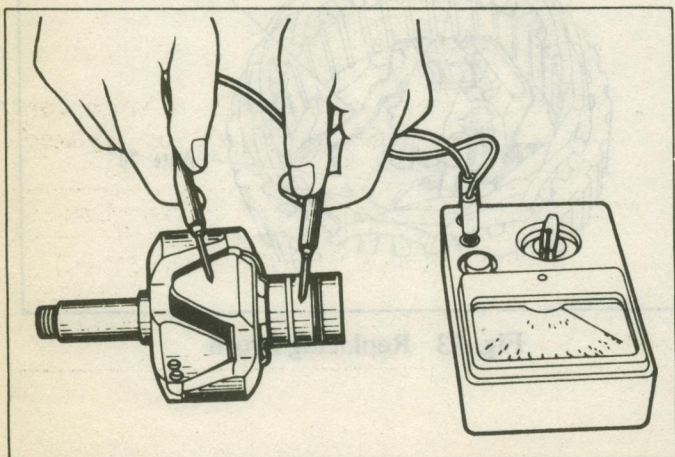

Fig. 55 Field Coil Ground Test
(3) Check for continuity between the slip ring and shaft (or core). If there is continuity, it means that the coil or slip ring is grounded. Replace the rotor assembly. (Fig. 55)